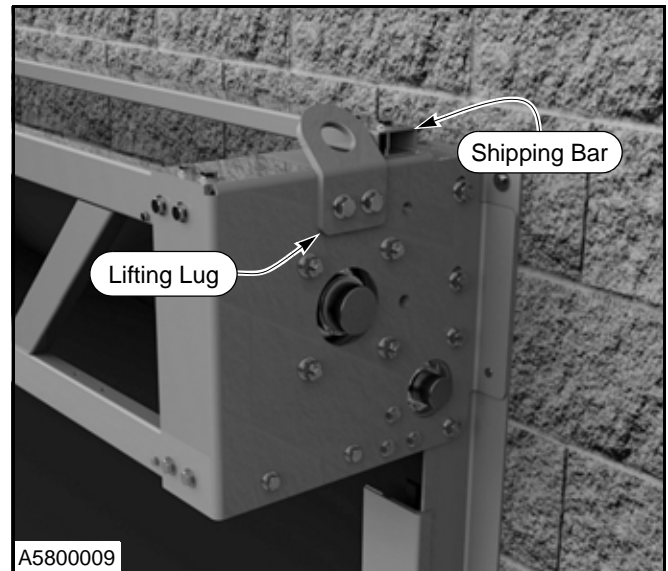

Figure 20
13. **OPTIONAL:** The lifting lug and shipping bar are used to install the door. These pieces can be removed if there is a interference problem. (See Figure 20.)